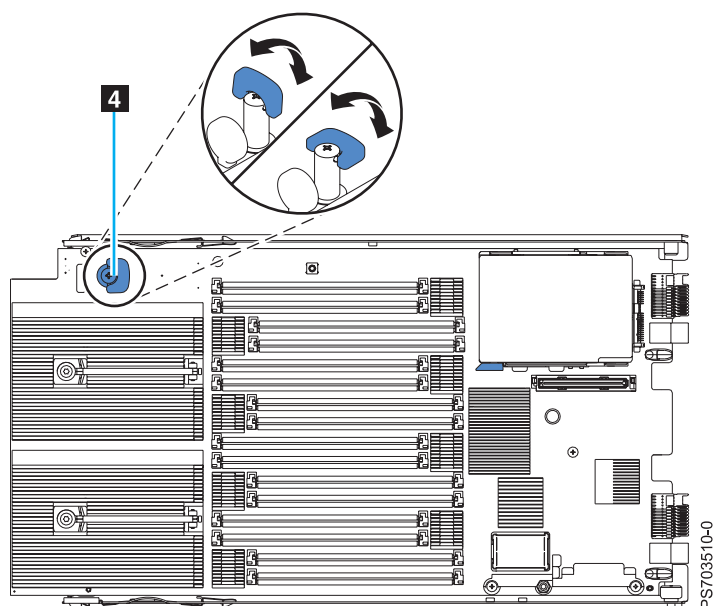

Figure 25. Expansion blade retention screw
3. To access the expansion-blade retention thumb screw, see **4** in Figure 25.